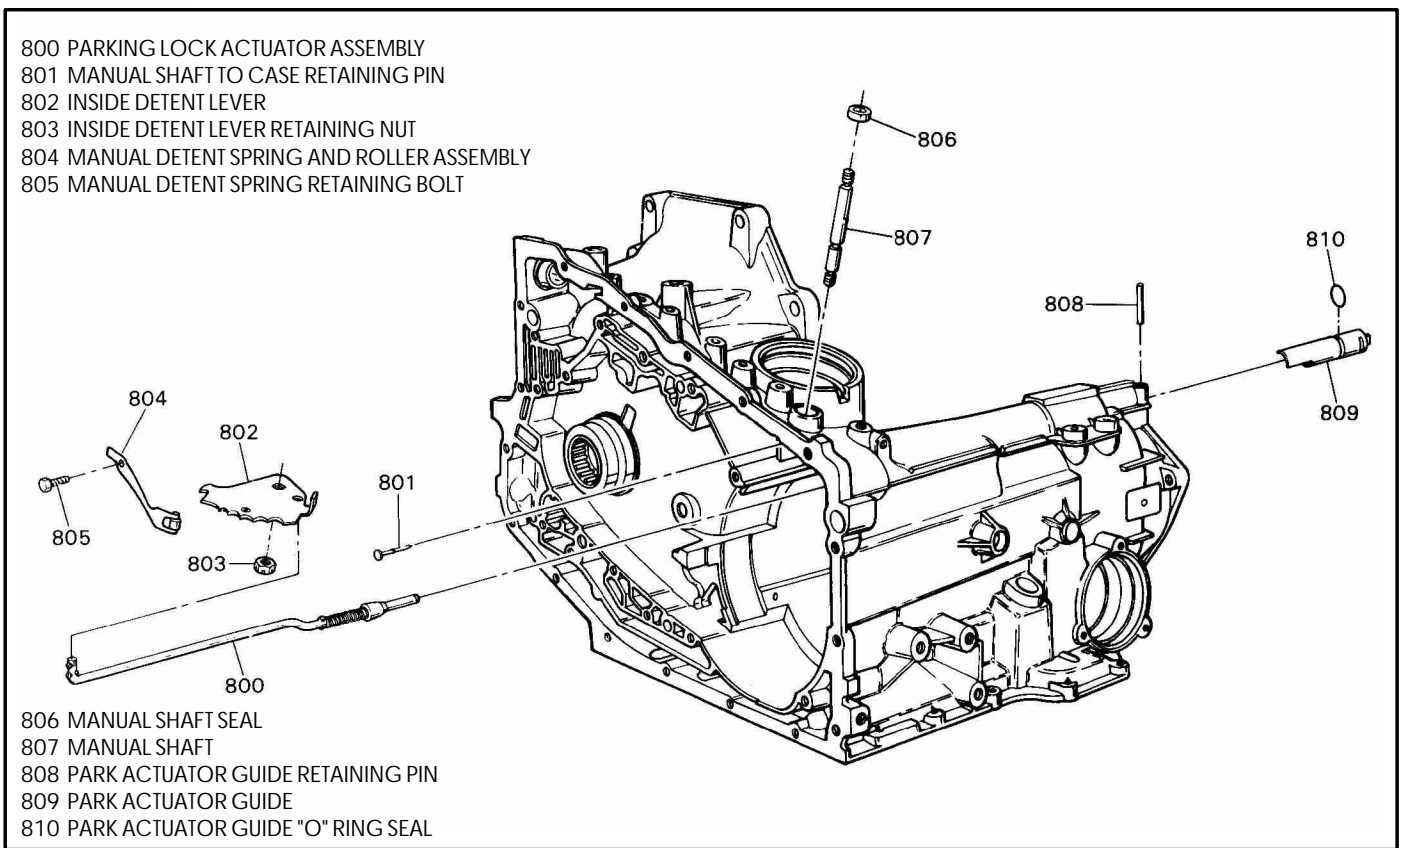

Figure 75
59. Remove the case park linkage components using Figure 75 as a guide.
8. Install acuator guide into the transaxle case, as shown in Figure 75, align slot for retaining pin.
9. Install actuator guide retaining pin, as shown in Figure 75.
10. Install manual shaft into case and carefully through the manual shaft seal, align the slot for retaining pin, and install the retaining pin, as shown in Figure 75.
11. Install park lock actuator rod onto the inside detent lever (See Figure 75).
12. Install the assembly into the acuator guide and inside detent lever over the manual shaft, as shown in Figure 75.